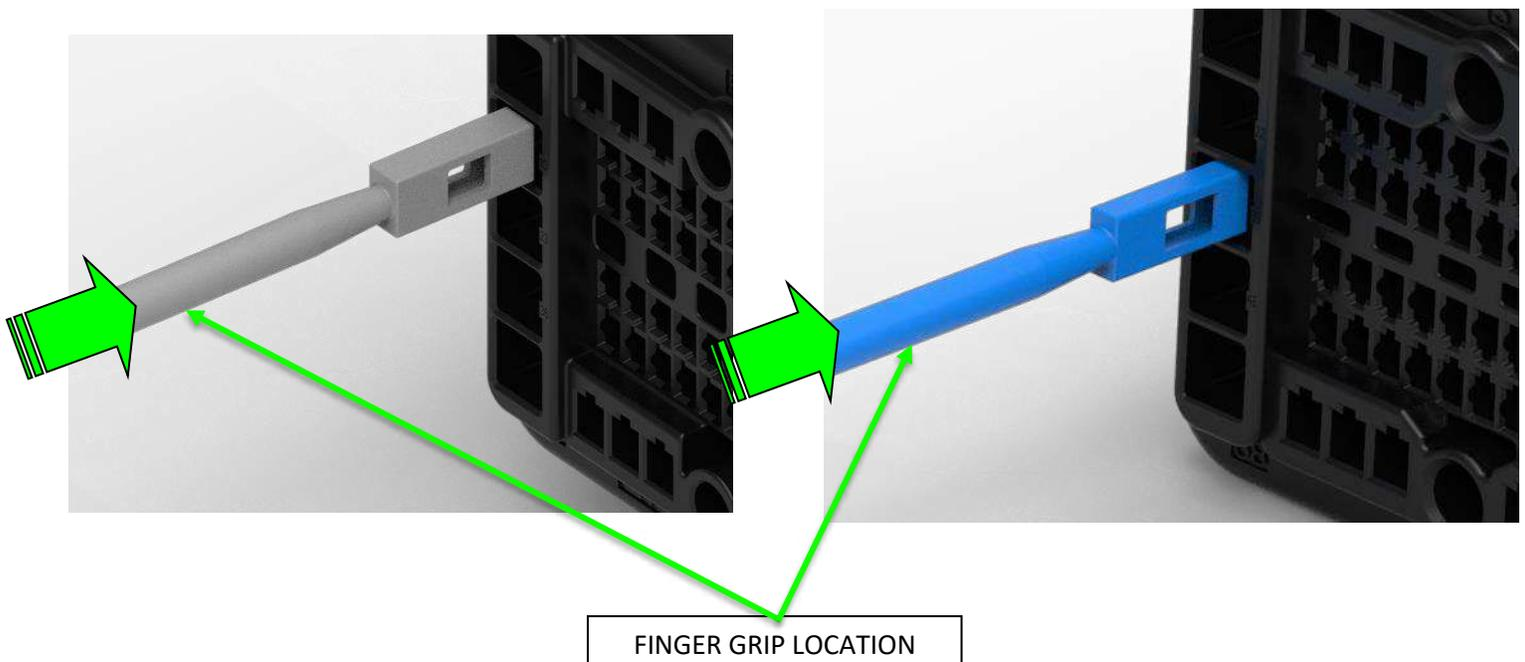

Figure 40
1. Insert a seal plug by grasping the end of the seal plug at the finger grip. Alignment to the circuit cavity is provided by visual and mechanical means. Push the seal plug straight into the appropriate circuit cavity until it stops. Refer to Figure 40.